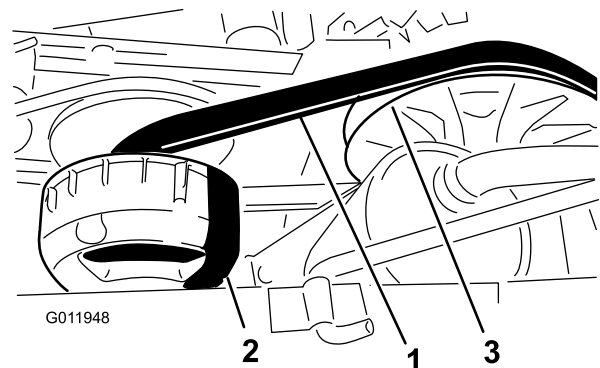

Figure 55
4. Rotate and inspect the belt (Figure 55) for signs of excessive wear or damage.
3. Rotate and route the belt over the secondary clutch (Figure 55).
4. Remove the belt from the primary clutch (Figure 55).
5. Align the new belt over the primary clutch (Figure 55).
6. Rotate and route the belt over the secondary clutch (Figure 55).